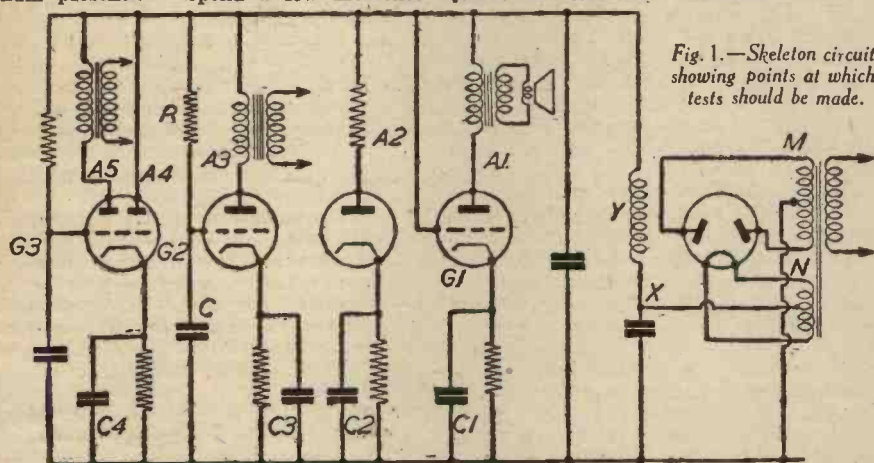

Fig. 1.—Skeleton circuit showing points at which tests should be made.
Measure the H.T. voltage at the point X (Fig. 1). Low volts will indicate: (1) a faulty rectifier; (2) a faulty mains transformer; or (3) a heavy current drain on the rectifier due to excessive leakage or breakdown of a condenser.